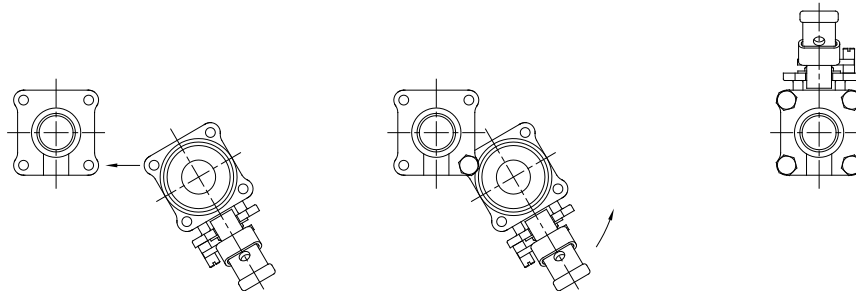

Fig. 2
- 8.19 Ease the completed body assembly (as shown in fig. 2 for sizes up to 2" inclusive) between the end caps ensuring that the faces and body seals are not trapped or damaged.